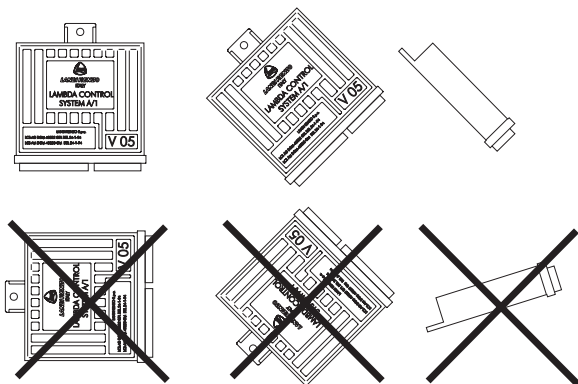

Fig. 3
3. INSTALLAZIONE COMPUTER LCS A1 V05 (Fig. 3)